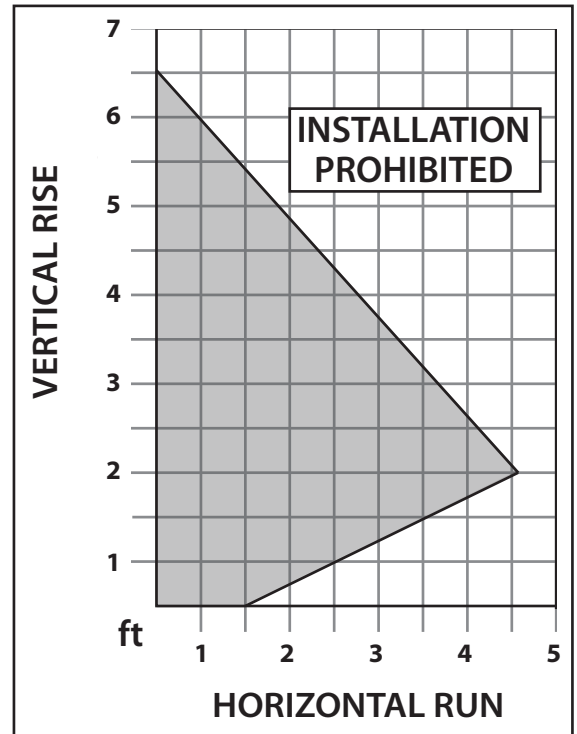

Figure 35: Possible Vent Configurations for Rear Vented Vertical and Horizontal Terminations.
- STEP 9.** Slip the storm collar over the pipe, and push it down to the top of the roof flashing as shown in Figure 35. Use the non-hardening sealant around the joint between the pipe and the storm collar.
Table 6: Minimum 'H' for Figure 35.